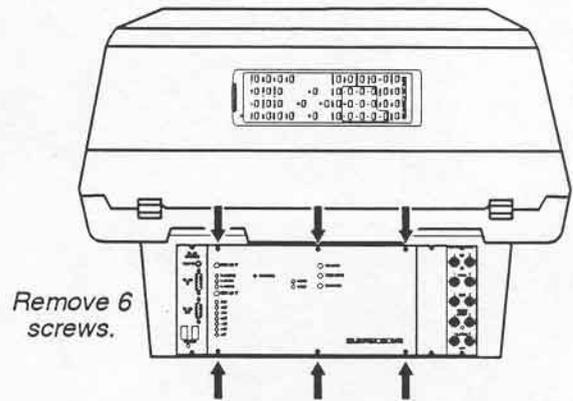

Figure 5-10. Rear Panel Removal
- b) Remove the 6 rear panel securing screws as shown in Figure 5-10 then set the rear panel aside.